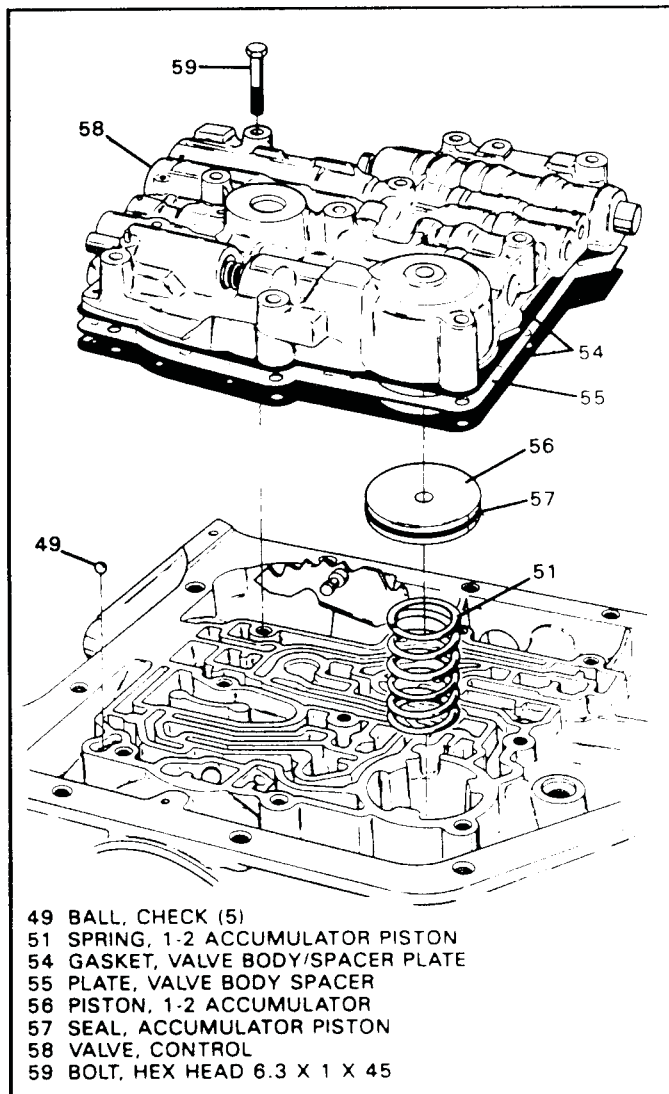

Figure 40
30. Remove the remaining valve body attaching bolts and remove the valve body, spacer plate, and both gaskets. Discard both valve body gaskets. There are 4 checkballs in the valve body, don't lose them. (See Figure 40).
31. Remove the 1-2 accumulator piston and spring, as shown in Figure 40.
32. Remove the number 5 checkball from case, if it is so equipped (See Figure 40).